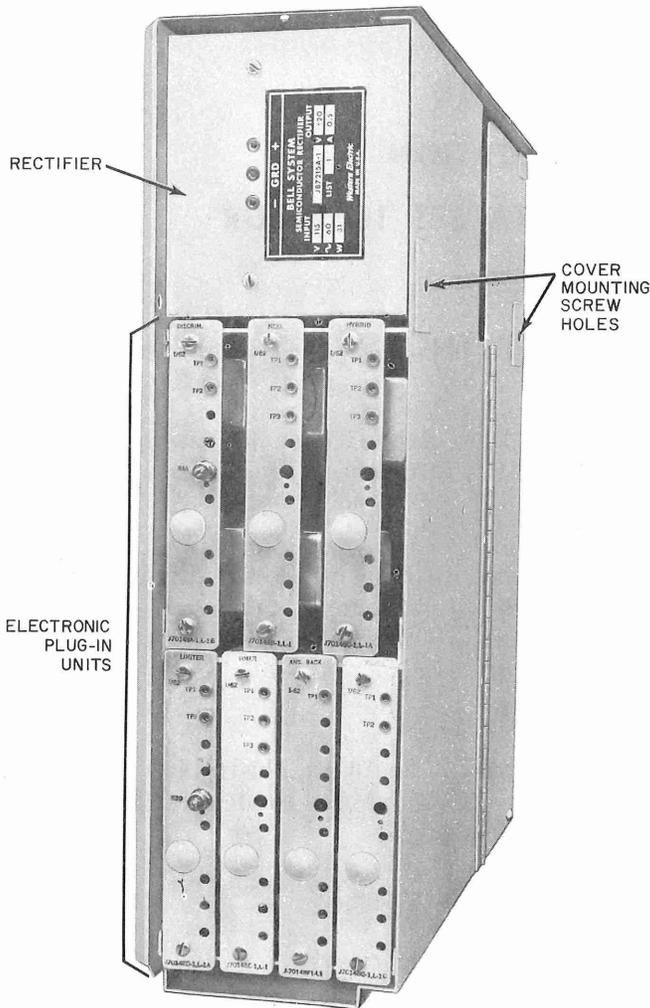

Fig. 1—Data Set 101A, Front View, Cover Removed
**1.06** Fig. 1, 2, and 3 are illustrations of the Data Set and can be used to identify the following major components.